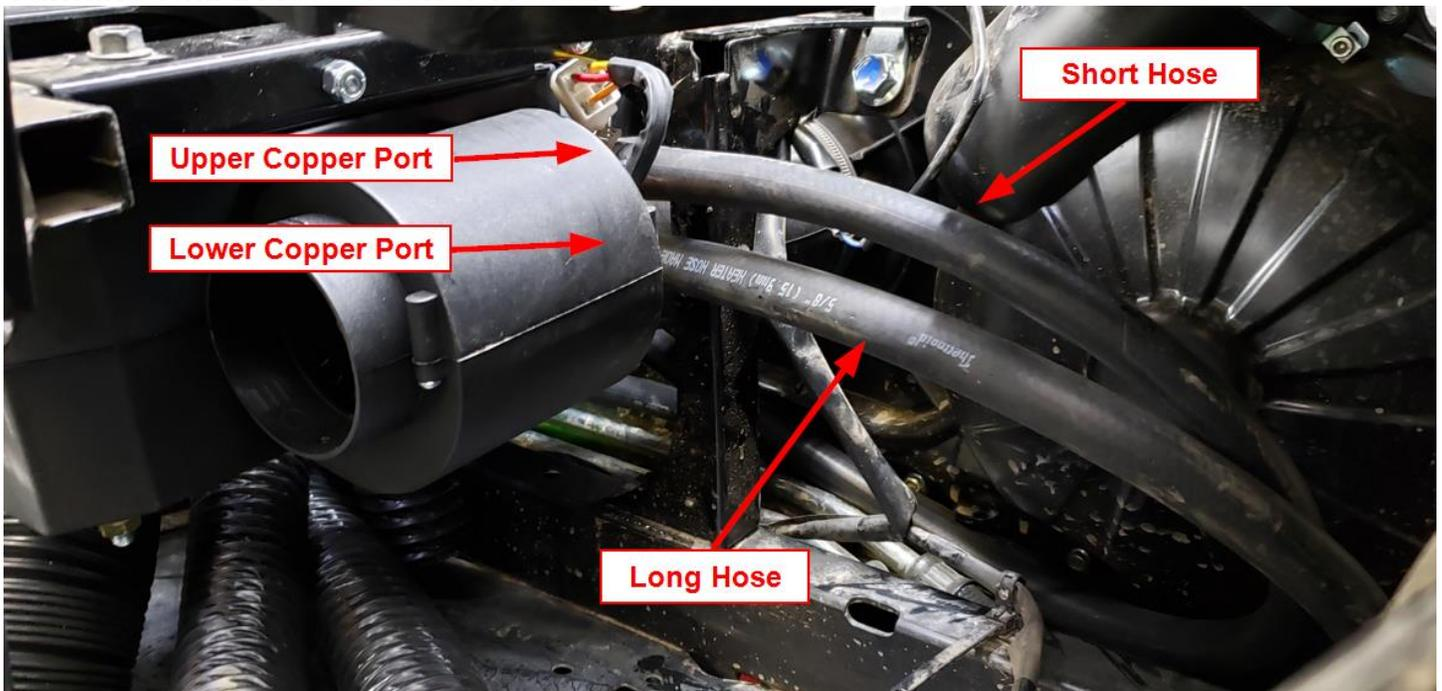

Figure 33
- f. Place a #10 Hose clamp over each 5/8" Coolant Hose near the heater, attach the shorter of the two hoses to the Upper Copper Port on the heater. Secure using an 8mm socket and #10 Hose Clamp. Attach the longer 5/8" Coolant Hose to the Lower Copper Port and secure with a #10 Hose Clamp as shown in Figure 33.